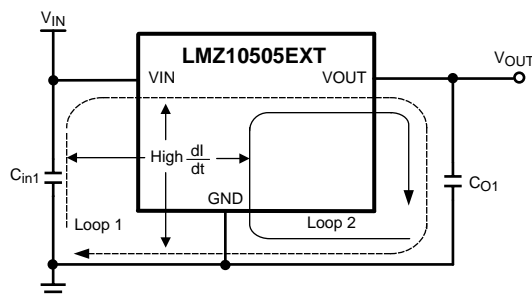

Figure 18. High Current Loops
From an EMI reduction standpoint, it is imperative to minimize the high di/dt current paths. The high current that does not overlap contains high di/dt , see Figure 18. Therefore physically place input capacitor (C_{in1}) as close as possible to the LMZ10505EXT VIN pin and GND exposed pad to avoid observable high frequency noise on the output pin. This will minimize the high di/dt area and reduce radiated EMI. Additionally, grounding for both the input and output capacitor should consist of a localized top side plane that connects to the GND exposed pad (EP).